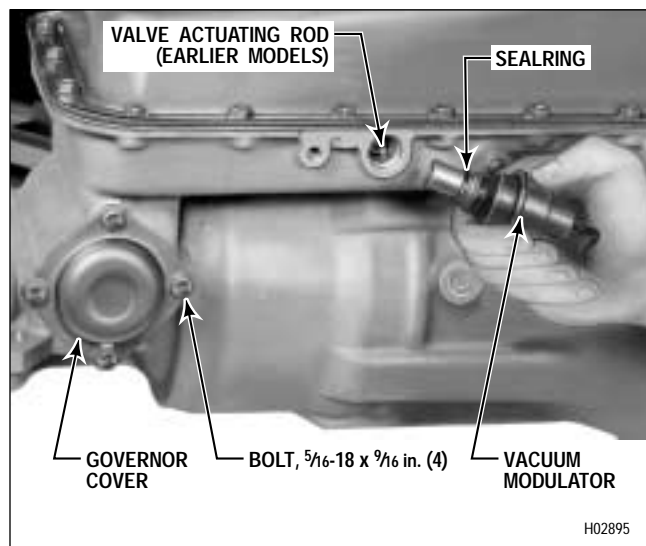

Figure 7-37. Installing Vacuum Modulator
(3) Install the governor cover and retain it with four 5/16-18 x 9/16 inch bolts (Figure 7-37). Tighten the bolts to 15-20 lb ft (20-27 N·m).
(1) For earlier models, install the vacuum modulator valve actuating rod, larger diameter end first (Figure 7-37). On diesel units (before S/N 22700) where a mechanical actuator is used, actuator pin 28 (Foldout 12,A) is one diameter. After S/N 22699, rod 28 (with two diameters) is used.
(2) Install the sealring onto the vacuum modulator (Figure 7-37). Lubricate the sealring with oil-soluble grease. Install the vacuum modulator.